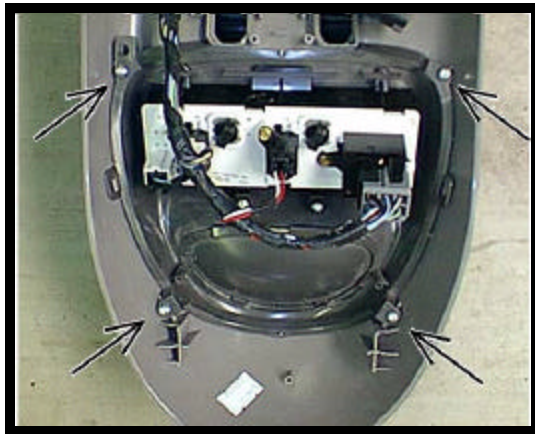

Figure 8
1. Remove and retain OEM front control head bezel assembly by removing four (4) screws. See Fig. 8.